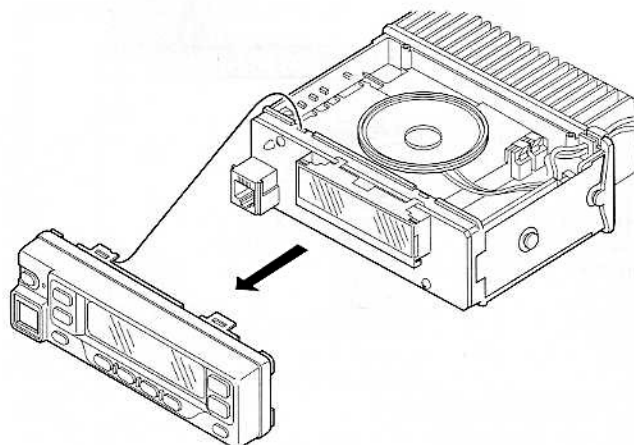

Fig. 8
1. Remove the control panel and the TX-RX unit (B/2) control section. (Fig. 8)